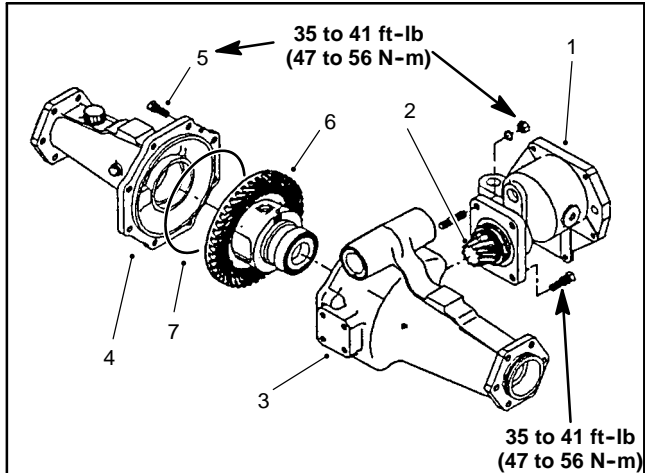

Figure 34
3. Remove input shaft/pinion gear assembly, shims and O-ring from the axle support (Fig. 34).